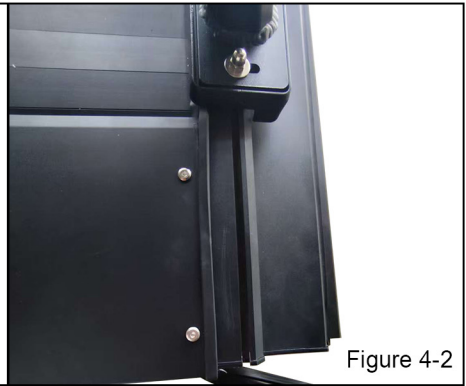

Figure 4-2
Step 4: Place the M2 on the M1. Align the bolt holes and tighten it. The final appearance is shown in Figure 4-2.